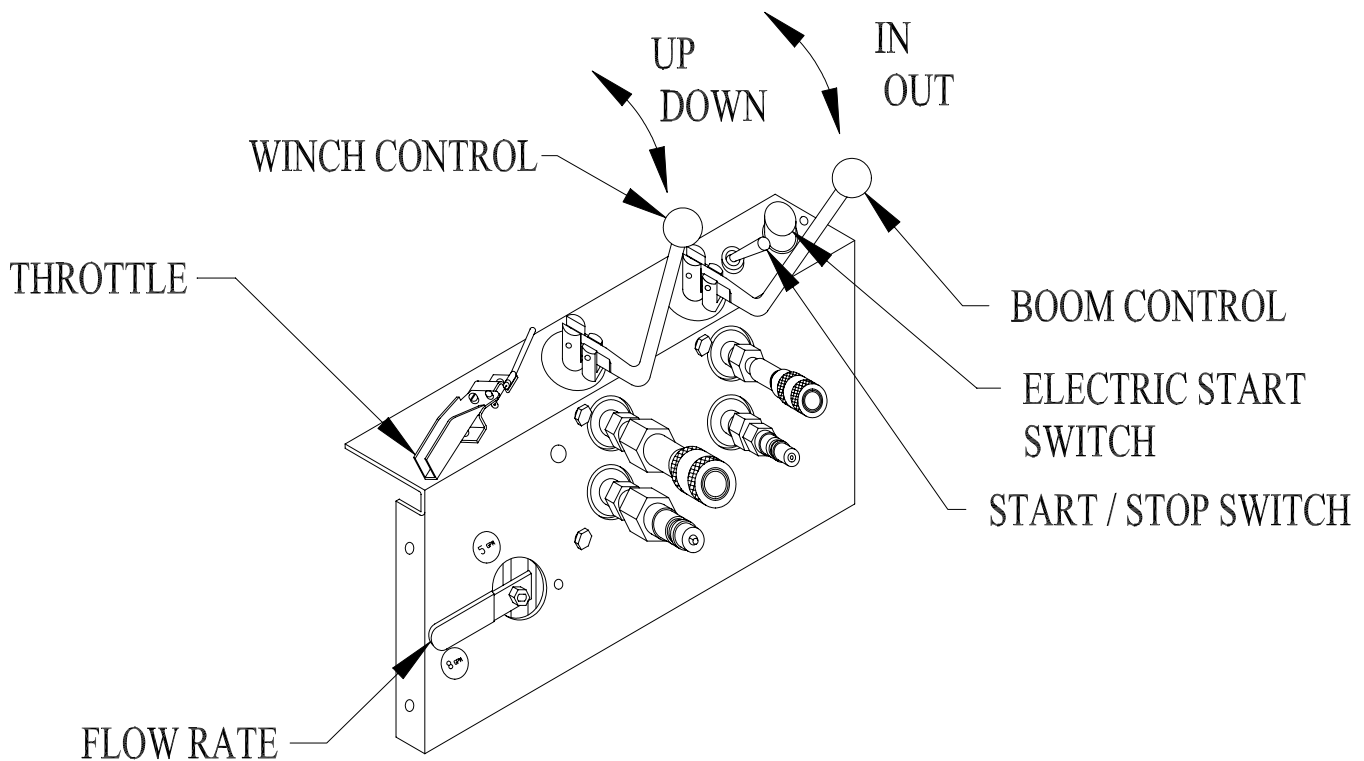

Figure 4-1.
- a. The 5/8 lever provides an output of either 5 or 8 GPM. See Figure 4-1. This selection allows the hydraulic winch to operate at two different speed ranges. Within these ranges, engine speed can be varied to further adjust hoisting speeds. Speeds are variable to about 165 fpm with a single part of line. A speed of up to 80 fpm is available when using the HS2000 with two parts of line. As wire rope is wound onto the drum, the diameter of the wire rope on the drum increases which increases lifting speed but decreases lifting capacity.
6. Pull winch control lever up to raise a load and down to lower a load. See Figures 4-1 and 4-2. Never allow anybody to ride on the hoist. Make a few “dry runs” (without load, but **with** ballast) to become familiar with operation, controls, and power unit and to test hoisting clearance. Always maintain 10-20 pounds of wire rope tension with a cable weight. Do NOT attempt to make any equipment adjustments during operation.
8. Use the boom control lever shown in Figures 4-1 and 4-2 to swing the boom 135° to load or unload material on the roof deck where you are working.